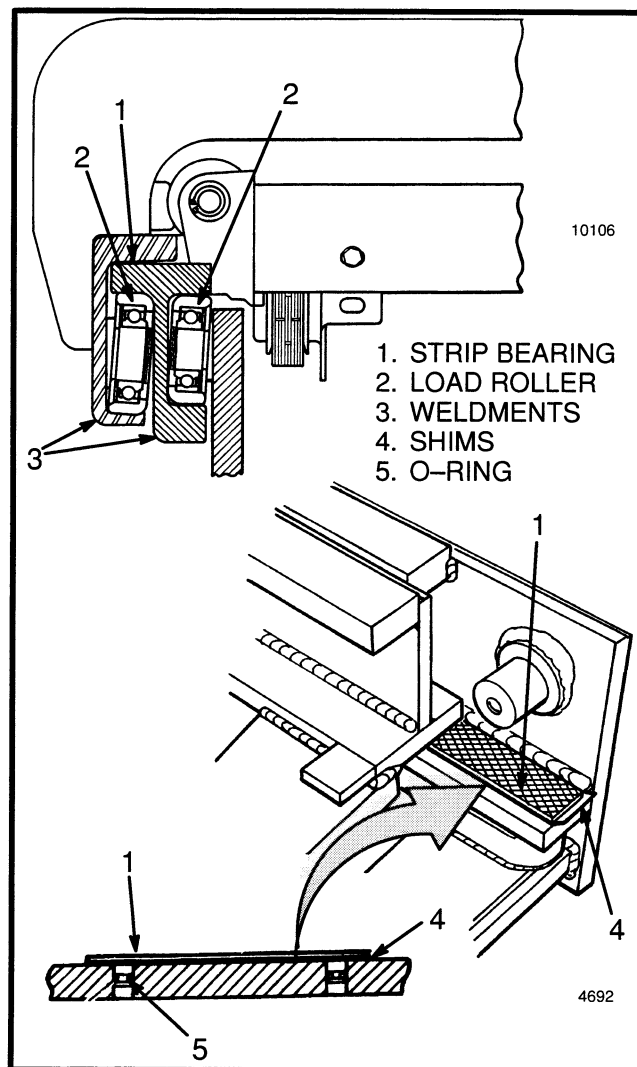

FIGURE 20. ADJUSTMENT OF THE STRIP BEARINGS
3. Adjust the strip bearings. Install or remove shims between the strip bearing and the channel. Adjust the strip bearings so that the maximum clearance at the point of tightest fit is 0.8 mm (0.030 in). See FIGURE 20.